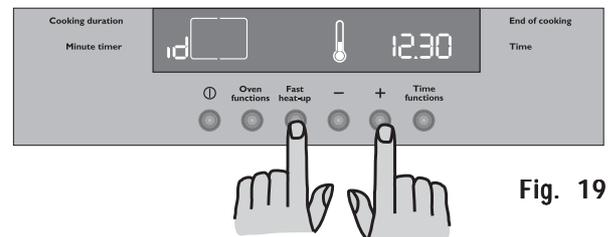

Fig. 19
- Press button Fast heat up and " " for approximately 2 seconds (Fig. 19). An acoustic alarm will sound for a short time.